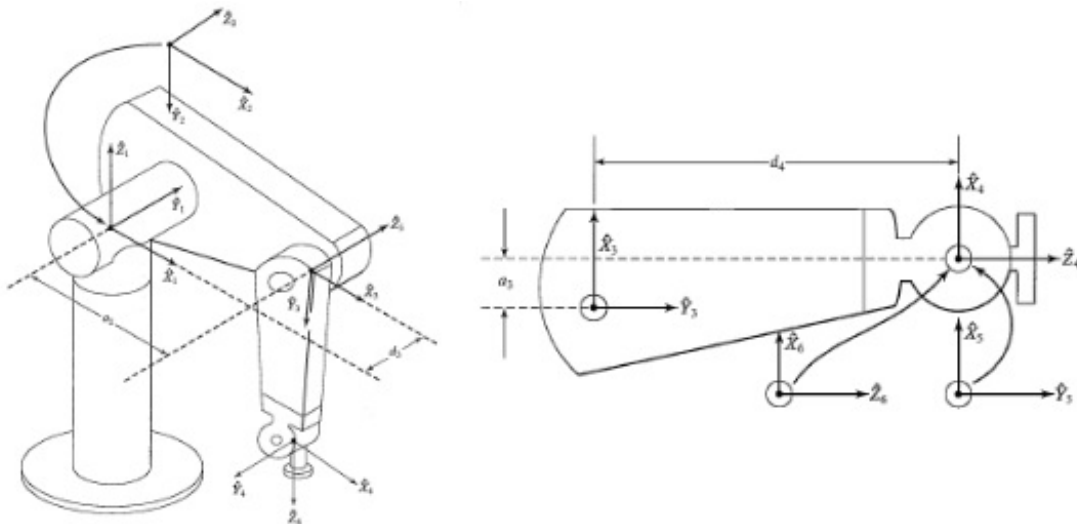

Figure 4
B) Find the D-H parameters of the of the Figure 4 (6)
C) Identify the Transformation matrix of Figure 4 (8)